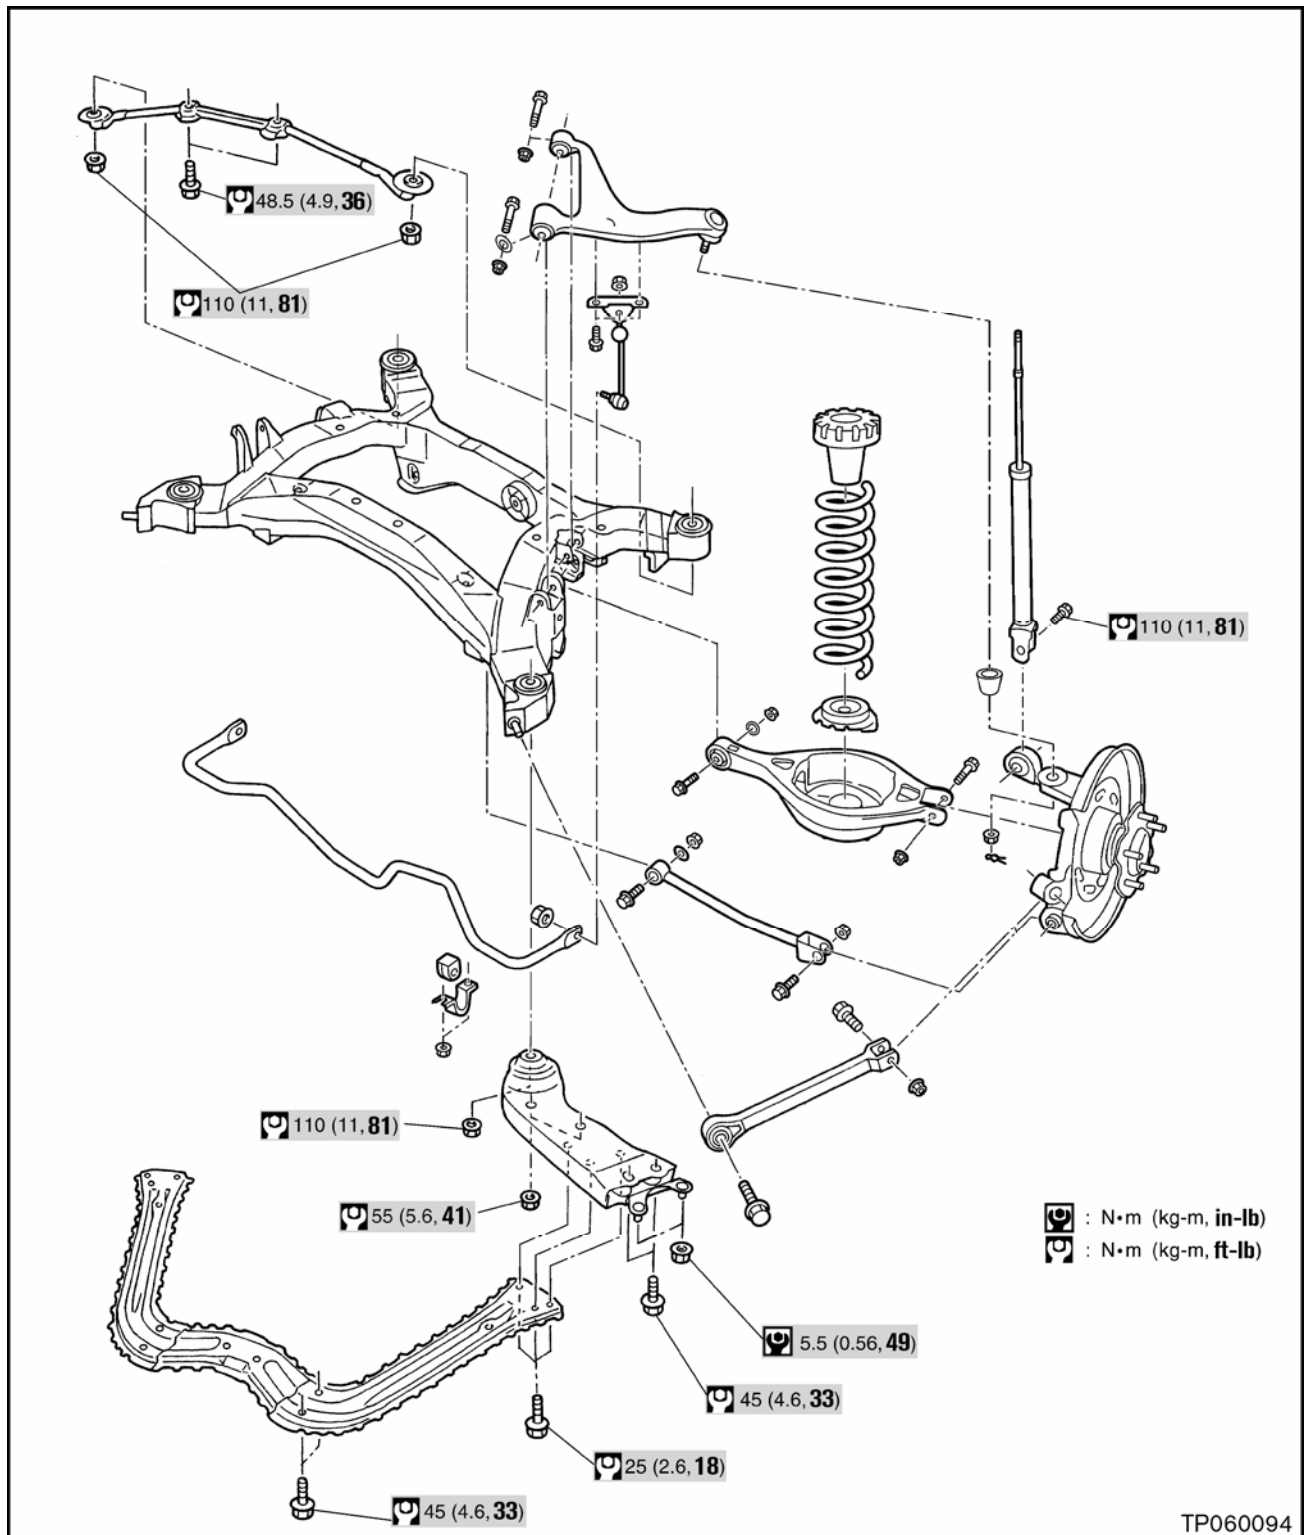

Figure 33
- All suspension fasteners are tightened to the proper torque specification (see Figure 33).